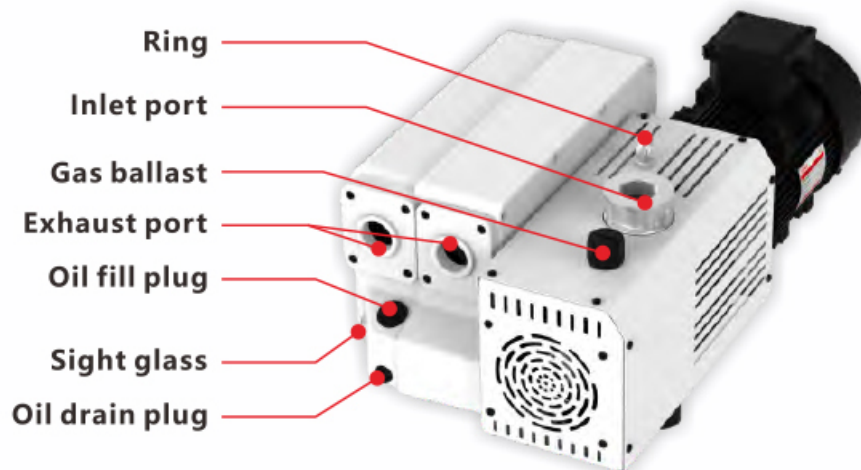

Fig.1
Fig.1 is the outline drawing of the pump. Its structural design is reasonable. It adopts the oil circulation air cooling structure. It runs without fault for a long time, and has large pumping speed, high limit vacuum, low noise, low vibration, no oil injection, no oil leakage and convenient maintenance.
(1) When the pump is working, the pump oil level shall always be kept between the minimum oil level line and the maximum oil level line (see Fig.6). If the liquid level is lower than the minimum oil level line, oil shall be added in time. If the liquid level is higher than the maximum oil level line, unscrew the oil plug (Fig. 1) to drain the excess pump oil.
(2) Observe the color of the pump oil. The normal pump oil is clean and transparent; If the pump oil turns brown or emulsified, the oil needs to be changed.